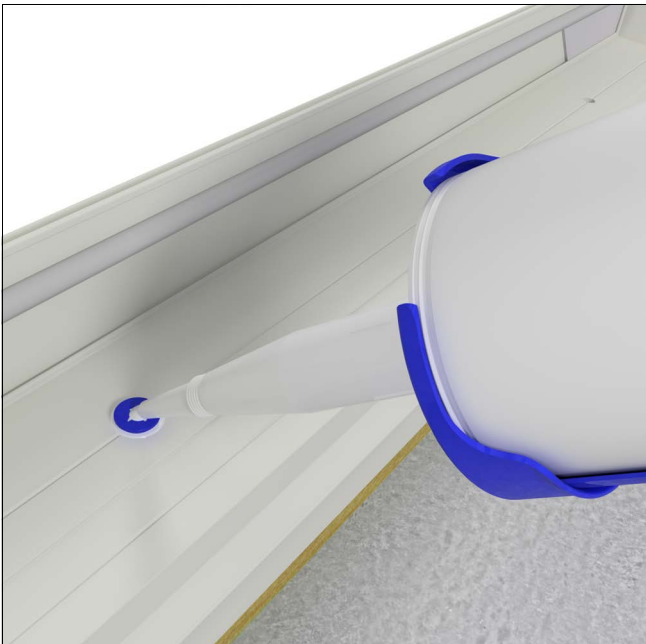

Figure 15
9. Seal over the screw heads of the fasteners with additional silicone. See Figure 15.